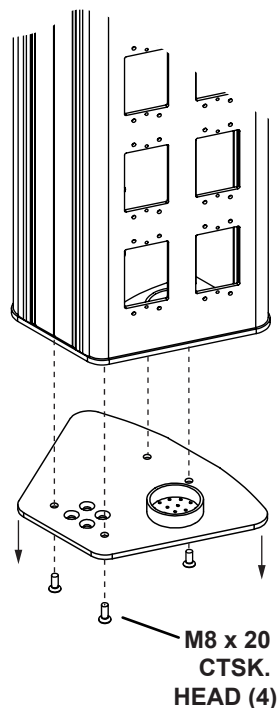

Figure 1. Remove the bottom plate
1. Remove the plate on the bottom of the carrier (Figure 1). Use an impact screwdriver with a #2 Phillip's head bit to remove the four corner screws holding the plate in place. Hold the plate up so it does not drop on the floor.